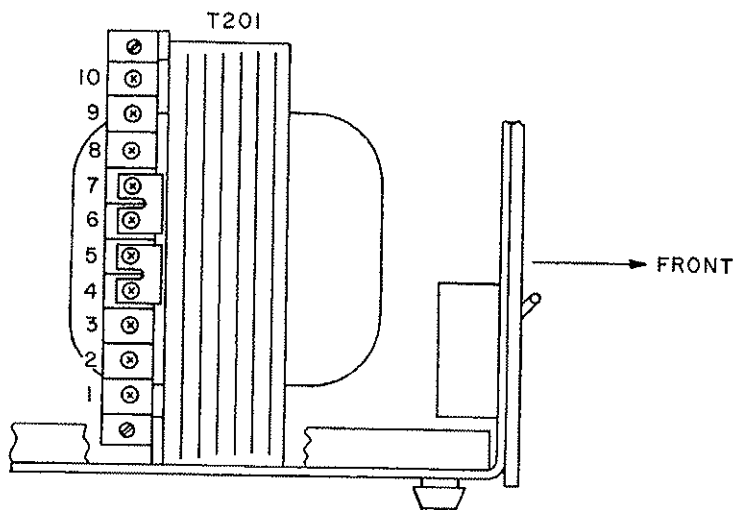

FIG. 2-3 A-C SOURCE VOLTAGE SELECTION.
- 2-5 This power supply is normally supplied for operation on a single phase, nominal 115V a-c line. For operation on other a-c source voltages, refer to FIG. 2-3. Check your prevailing nominal source voltage and change the links on the barrier strip of T201 according to the table provided in FIG. 2-3. The circuit breaker (CB101) remains equally effective at all input voltages.